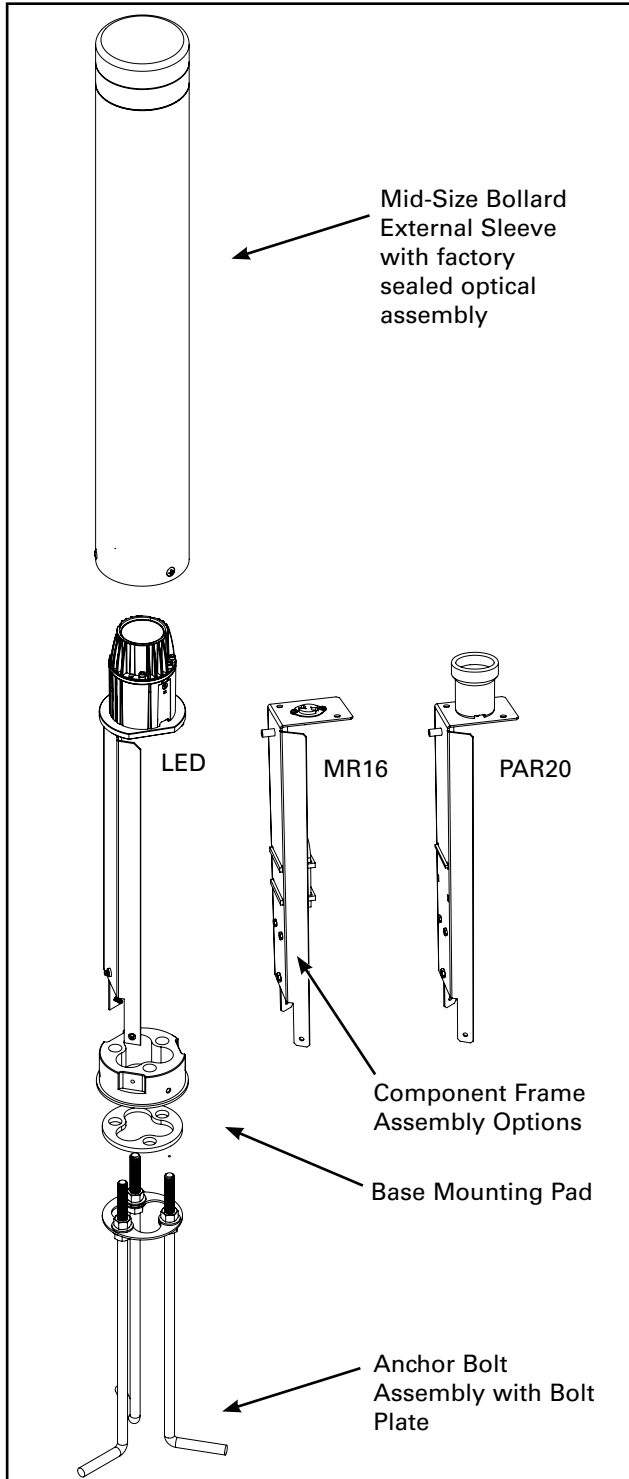
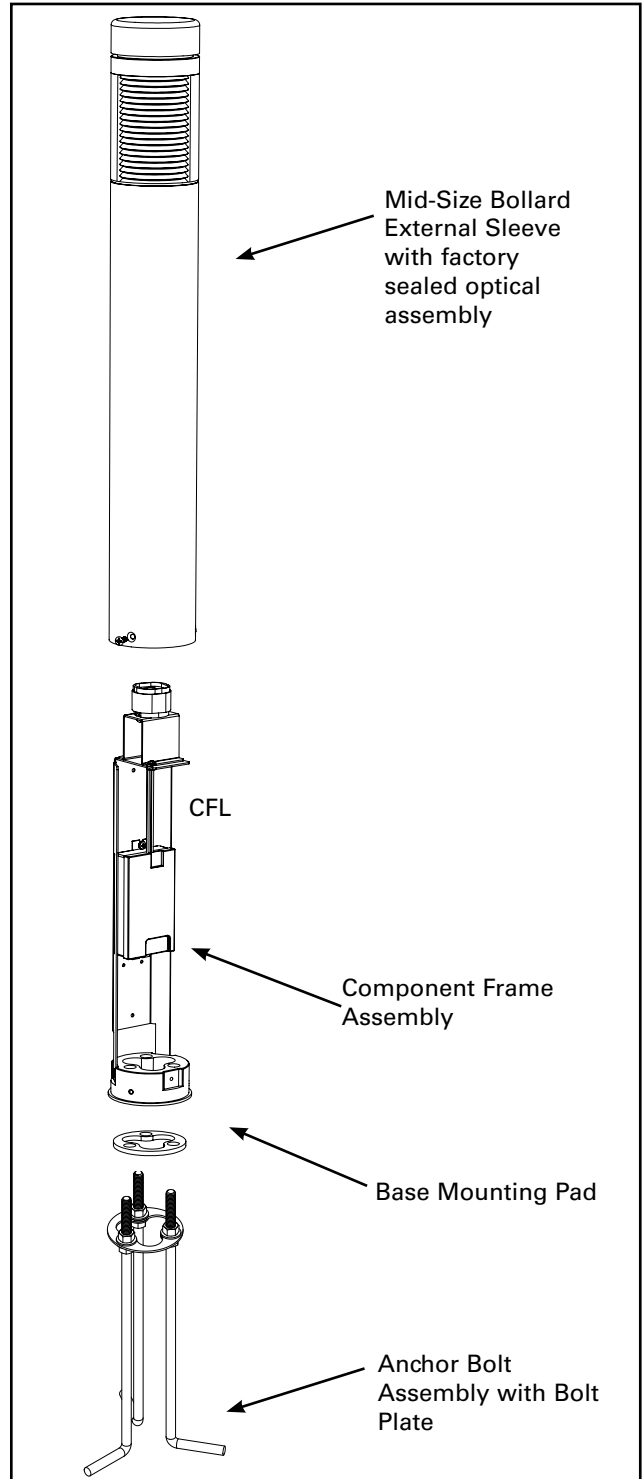

Figure 1.
Figure 2.
1. Unpack ASPEN Series Bollard and ensure that all included parts are present. (Figure 1 and Figure 2.)